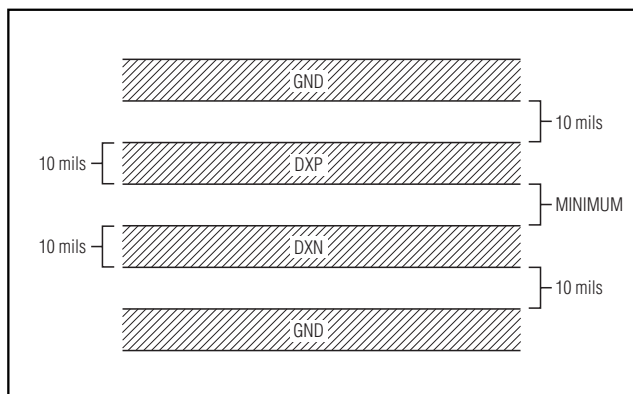

Figure 5. Recommended DXP-DXN PC Board Traces
- 3) Route the DXP and DXN traces in parallel and in close proximity to each other. Each parallel pair of traces should go to a remote diode. Route these traces away from any higher voltage traces, such as +12VDC. Leakage currents from PC board contamination must be dealt with carefully since a 20M $\Omega$  leakage path from DXP to ground causes about +1°C error. If high-voltage traces are unavoidable, connect guard traces to GND on either side of the DXP-DXN traces (Figure 5).